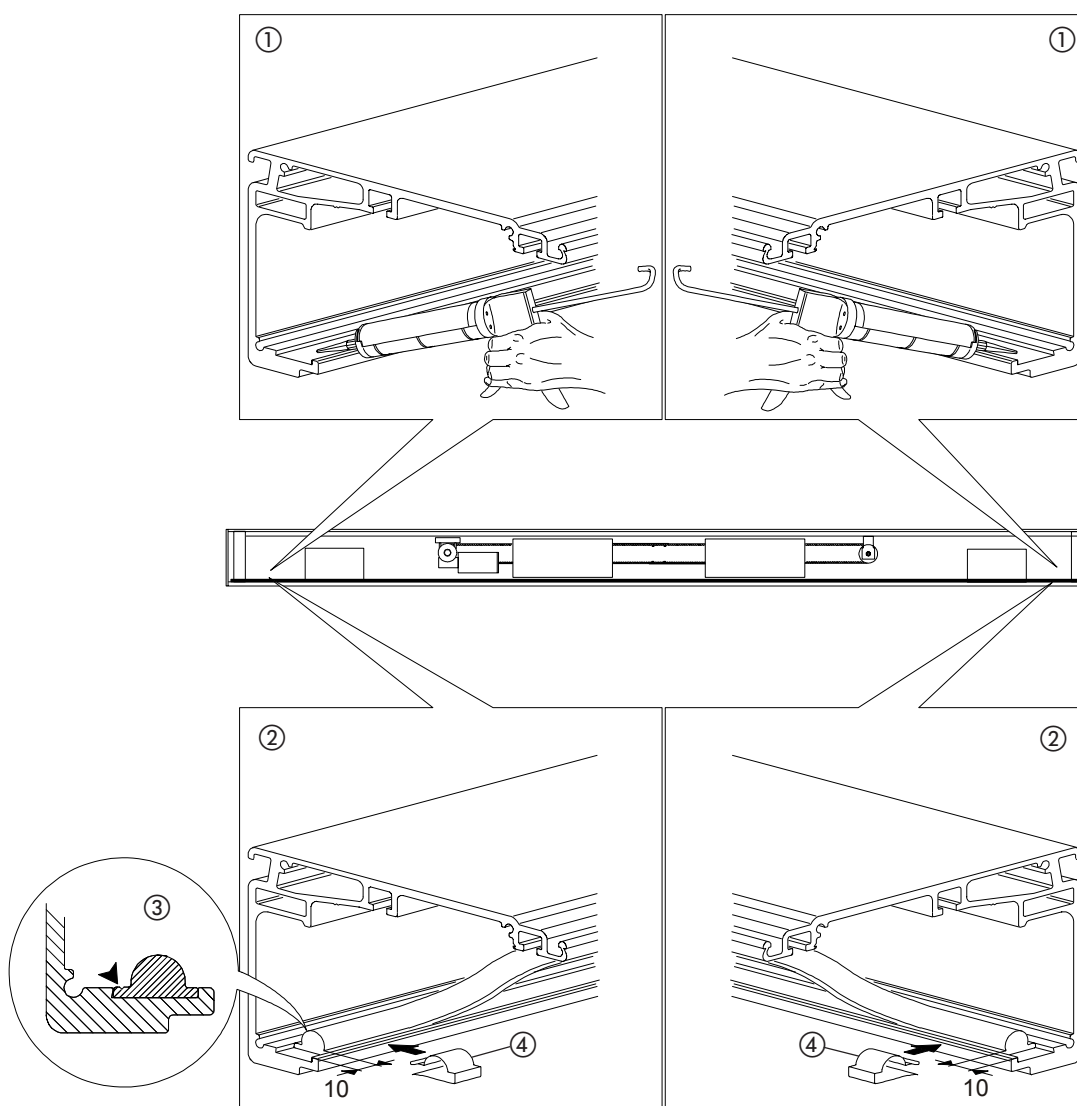

fig. 45
Cut the sliding guide 20 mm. shorter than the support profile. Spread a thin film of silicone on the seat of the load bearing profile (fig. 45 ref. ①) and position the sliding guide so that 10 mm. of space remain on both sides of the profile (fig. 45 ref. ②). Keep pressing the sliding guide against its seat and make sure that no dips develop. Carefully clean off any silicone residues.
N.B.: the guide is not symmetrical; the side with the groove must face the wall (fig.45 ref. ③).
Secure the sliding guide using the supplied elastic pliers (fig. 45 ref. ④).